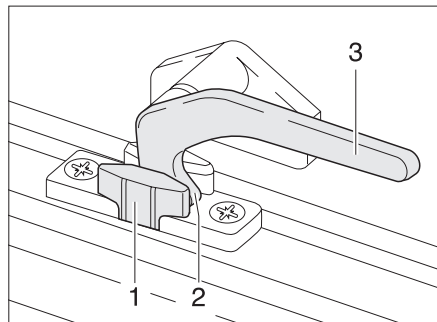
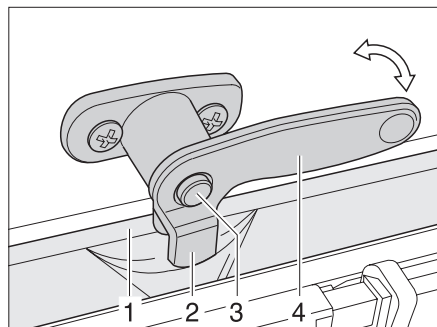

Fig. 31 Catch lever in the "continuous ventilation" position
Fig. 32 Catch lever with safety knob in "continuous ventilation" position
- "Continuous ventilation" (Fig. 31)
- ▶ If it exists, press the safety knob (Fig. 32,3) down and hold it.
- ▶ Turn the catch lever (Fig. 31,3 or Fig. 32,4) a quarter turn towards the centre of the window.
- ▶ Return the catch lever to its initial position. In the process the locking catch (Fig. 31,2 or Fig. 32,2) is retracted into the recess of the window catch (Fig. 31,1 or Fig. 32,1).